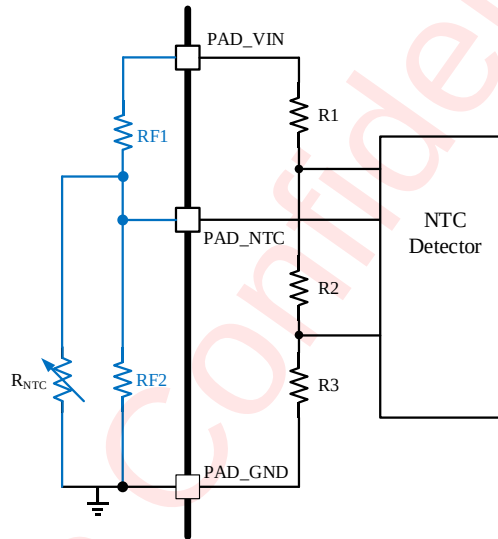

Figure 7 NTC Function
NTC pin is connected to the thermistor paralleled with a resistor R_{F2} to ground. Another resistor R_{F1} is connected to the VIN which is the chip's internal power supply voltage. The high temperature limit and low temperature limit can be varied by using different R_{F1} and R_{F2} . Illustrated in Figure 7, the off chip resistors must be connected as the blue part demonstrated. The resistance of R_{F1} and R_{F2} can be calculated by Equation (1) and Equation (2):